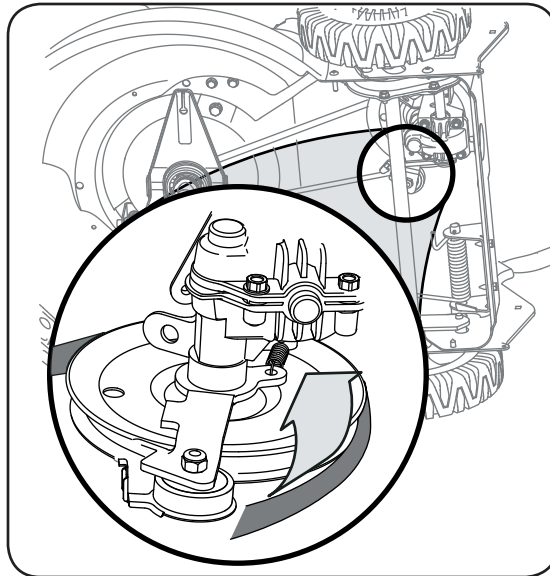

Figure 16
11. Slide the belt out from between the belt keeper bracket and the idler pulley. See Figure 16.